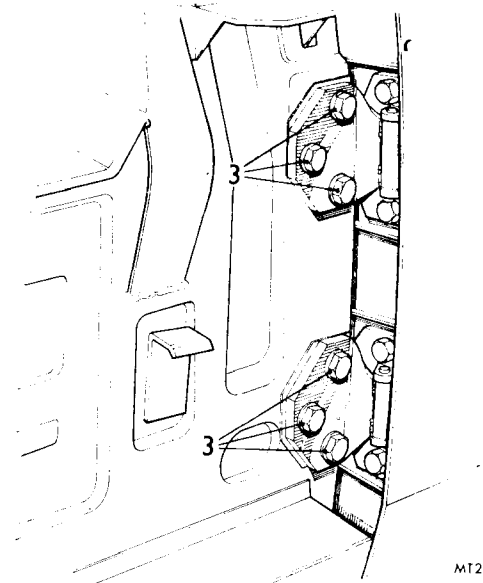

Fig. 88 Door hinges
3. Support the door and remove six bolts (Fig. 88) together with their washers.